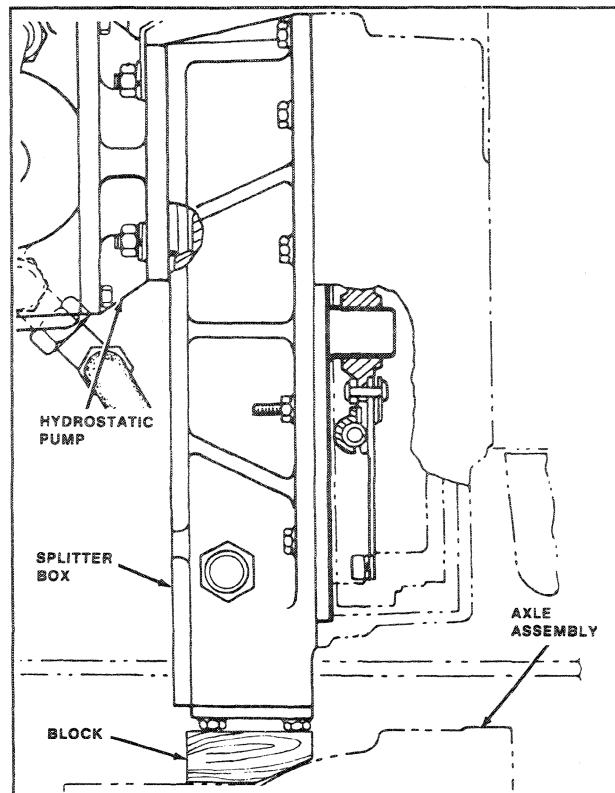

FIGURE 2-12: Supporting the Splitter Box
- Attach lifting fixture to the splitter box assembly. Support splitter box assembly underneath with blocks so splitter box weight will rest on the axle frame when mounting capscrews are removed from the engine flywheel housing (Figure 2-12).